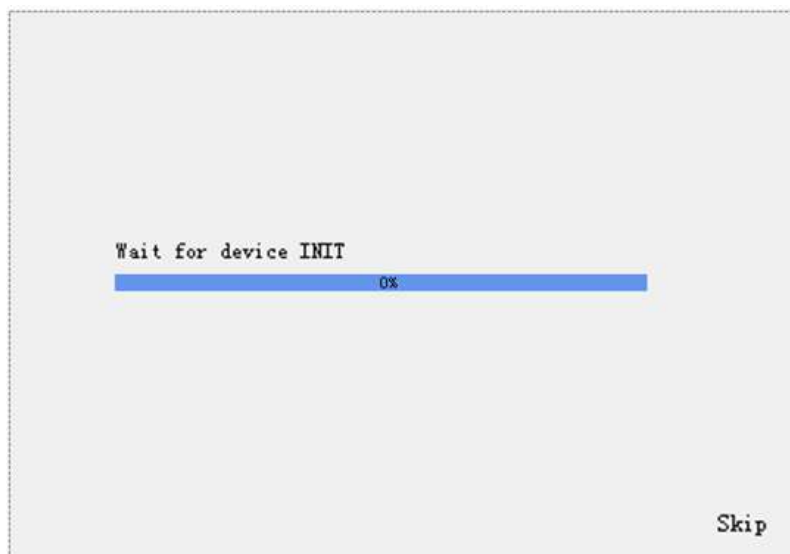

Fig 3-1 Initialization interface
3. After system initialization is complete, the system will enter the main interface, as shown in Fig.3-1.